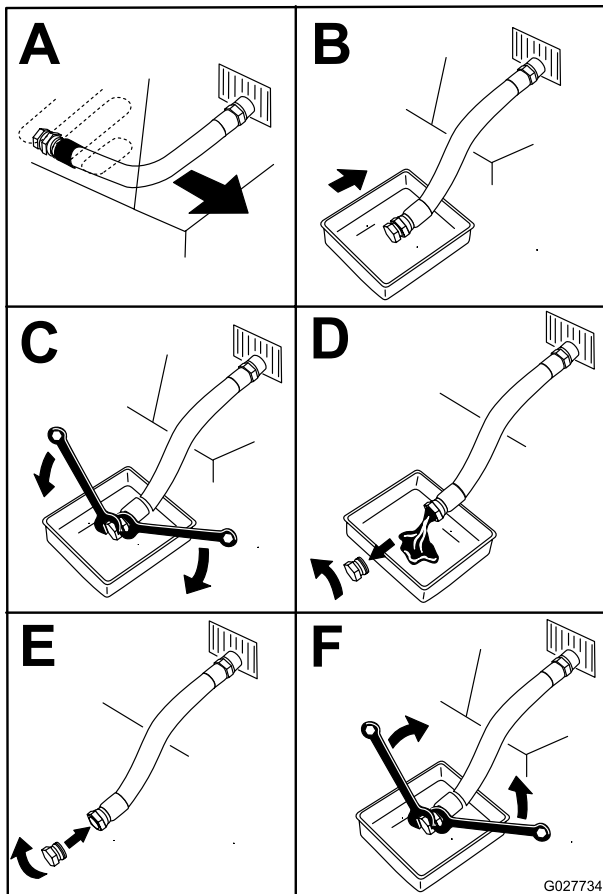

Figure 51
4. Stop the engine, remove the key, and wait for all moving parts to stop before leaving the operating position (Figure 51).